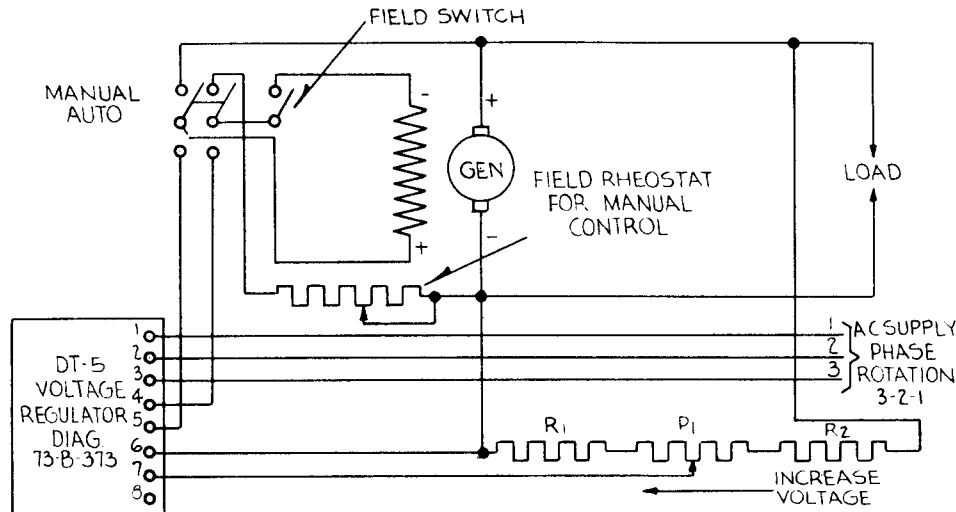
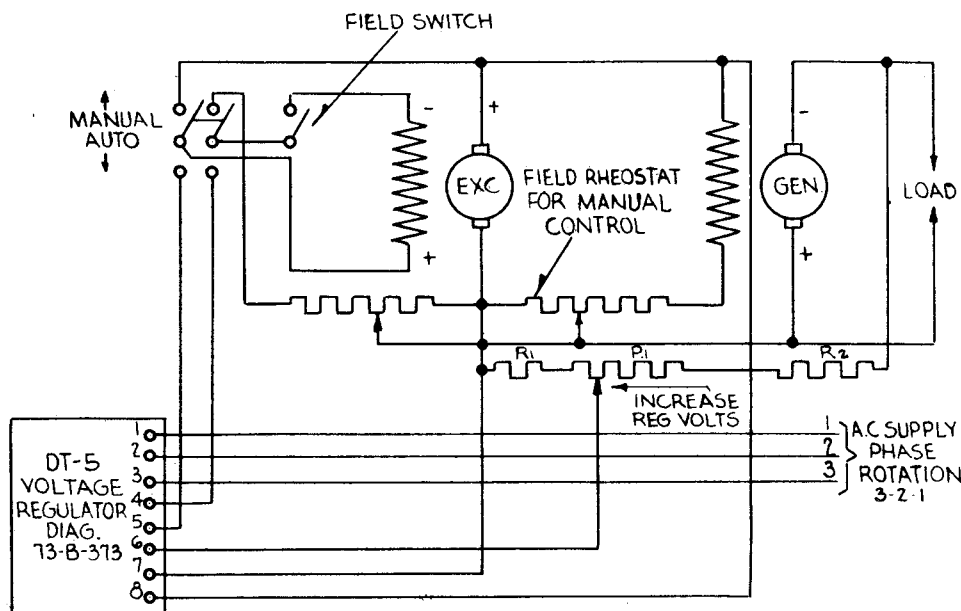

Fig. 3 - External Connections for Type DT-5 Voltage Regulator When Used without an Exciter
Fig. 4 - External Connections for Type DT-5 Voltage Regulator When Used with an Exciter
- (2) The DT-5 regulator may be used to control the voltage of direct-current generators. Typical diagrams of connections are shown in Figure 3 and Figure 4. In Figure 3 are shown the external connections for the regulator when used with a generator without an exciter. Figure 4 shows the connections when an exciter is used.
- (3) A-C. Supply Voltage. A three-phase a-c. supply source with frequency and voltage as given on the regulator name plate is needed to operate the DT-5 voltage regulator. Taps are provided on the filament transformer to adapt the regulator to voltages 5 per cent above or below the rated voltage. A regulator designed for, for example 440 volts, may therefore be used on either 420, 440 or 460 volts. In order to obtain satisfactory tube life the a-c. supply voltage must not be more than 5 per cent higher than normal. The maximum a-c. supply voltage variation should not exceed 10 per cent.
- (4) Maximum Field Current. The power transformer is designed to give a maximum output current of 1.5 amperes d-c. This value must not be exceeded. If the maximum generator field current exceeds this value an exciter must be added as shown in Figure 4. The generator
field in Figure 3 and the exciter field in Figure 4 should be designed for 125 volts.
- (5) Regulated Voltage Range. When the regulator is in operation the voltage across terminals 6 and 7 will be maintained at approximately 46 volts. In order to obtain the desired generator voltage, potentiometer P_1 and resistors R_1 and R_2 should be used. The minimum generator voltage is 46 volts. This voltage is obtained when $R_2 = 0$ and the tap on P_1 is to the right on Figure 3 and Figure 4. R_1 , R_2 and P_1 should be determined as follows:— assuming maximum generator voltage being E_{max} and minimum generator voltage E_{min} .
Approximately one minute is needed to heat the cathodes of the KU-628 tubes. For this reason the a-c. voltage must be supplied to the regulator at least one minute before the field switch shown in Figure 3 and Figure 4 is closed. If automatic starting is needed the control should be arranged with a timing relay to give a one-minute time delay between application of a-c. voltage and closure of the field switch or contactor.
- (16) Connect the regulator as shown in Figure 3 or 4 or according to special control diagram, making sure that the phase rotation of the a-c. supply voltage is 3-2-1 and the polarities of 6-7 and 7-8 are as shown in Figure 3 and 4. Connect lead 1 to the terminals of the filament transformer, so that the maximum supply voltage will never be more than 5 per cent higher than the terminal marking.
- (17) Place the tubes in their sockets, open the field switch and apply a-c. voltage. After one minute close the field switch. If an exciter is used, turn the anti-hunting potentiometer to the 100 position, then turn the potentiometer slowly towards zero until the regulated voltage becomes unstable, then turn potentiometer clockwise until stable regulation is obtained. If no exciter is used, the anti-hunting potentiometer is not connected and no adjustments are needed. With the regulator in operation, the generator voltage as read by the voltmeter inserted in the receptacles on front of the panel should be approximately 46 volts.
- (18) Test the various voltages by inserting the test plug in the receptacles on the test panel in the "OPERATION" position. The voltages should be within the specified limits. The test plug should be inserted so that the red spot on the test plug corresponds to the red receptacle. The KU-628 tubes should glow with a fairly steady glow. If the tubes are flickering excessively, the phase rotation of the a-c. supply may not be correct. Incorrect phase rotation will also be indicated by the